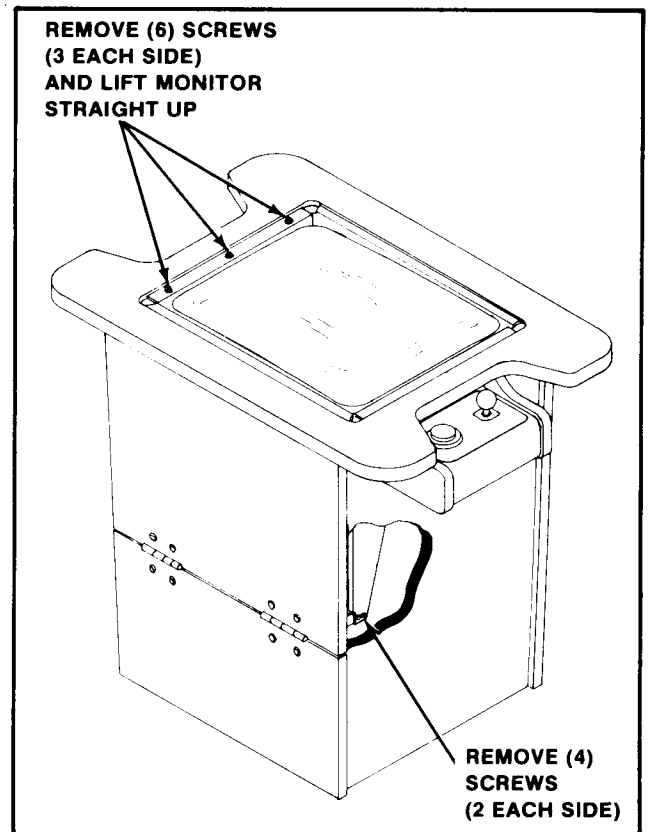

Figure 4-9 Removing the Monitor — Cocktail Game
2. COCKTAIL TABLE MODEL: See Figure 4-9.
- Remove the screws holding the T.V. monitor chassis to the "L" brackets by the door hinge(s). See Figure 4-9.
- Remove the screws which secure the T.V. monitor mounting brackets to the edges of the slot cut in the table top. See Figure 4-9.